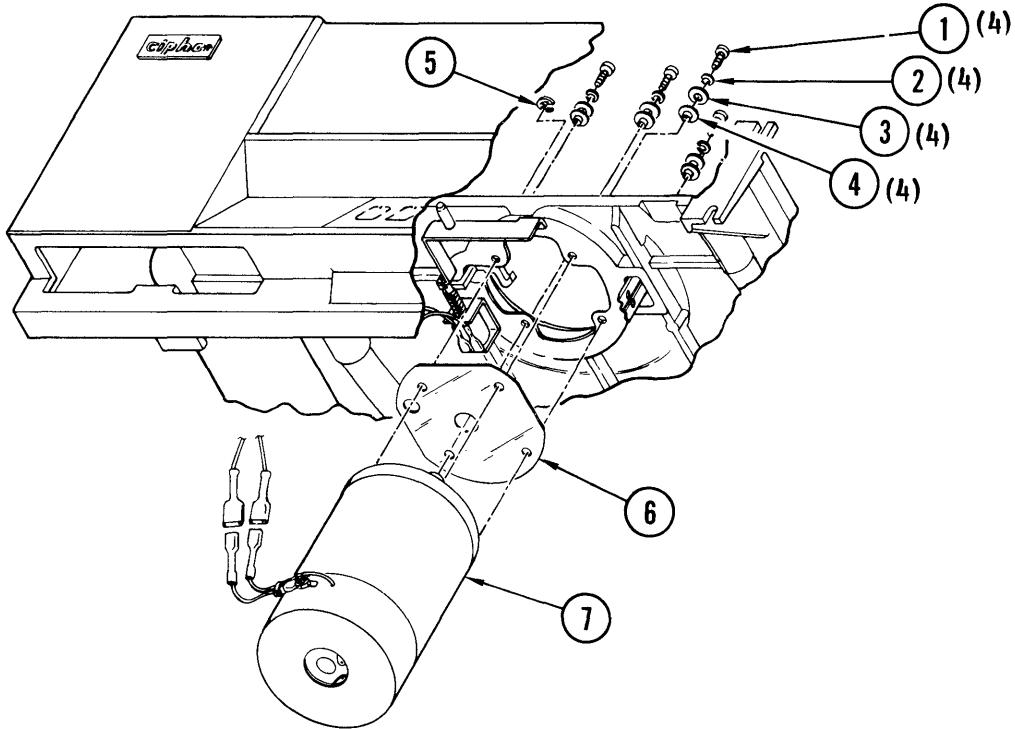

Figure 4-28. Supply Motor Assembly
4-44. **Removal and Replacement (Figure 4-28).** Place transport in service access position (paragraph 4-3) and remove and replace the supply motor assembly as follows:
- d. Remove bell crank retaining ring (5, Figure 4-28).
- e. Remove screw (1) lockwasher (2), flatwasher (3), shoulderwasher (4), and insulator (6), holding motor (7) as last screw is being removed.
- f. Lower motor (7) from top plate, simultaneously slipping bellcrank off post on top of motor.